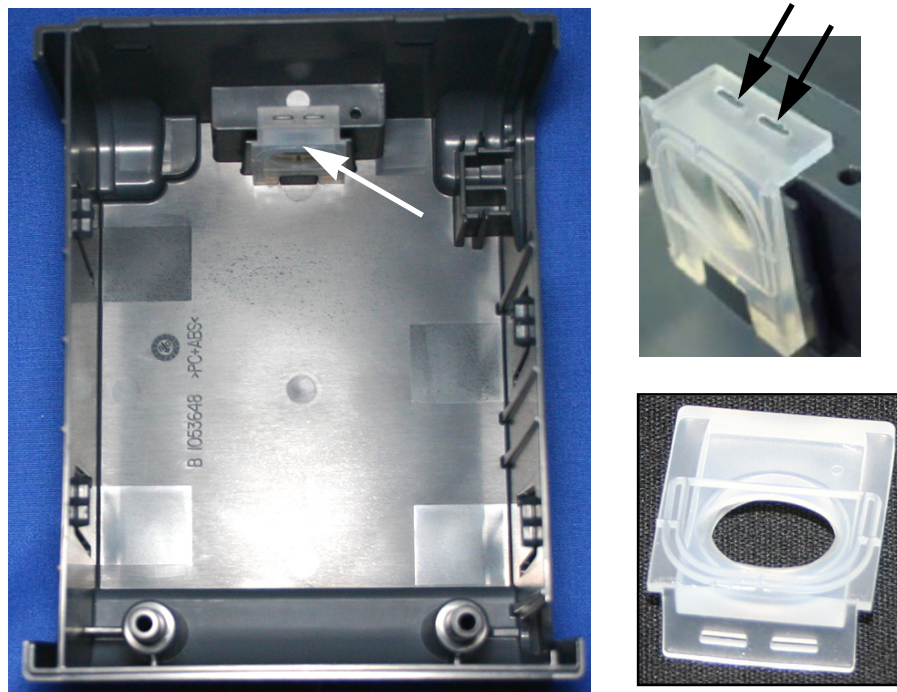

FIGURE 6-20: AIR INLET SEAL
1. Install the Air Inlet Seal in the Bottom Enclosure. Verify that it is flush with the Bottom Enclosure and fully seated on the two prongs as shown in Figure 6-20.